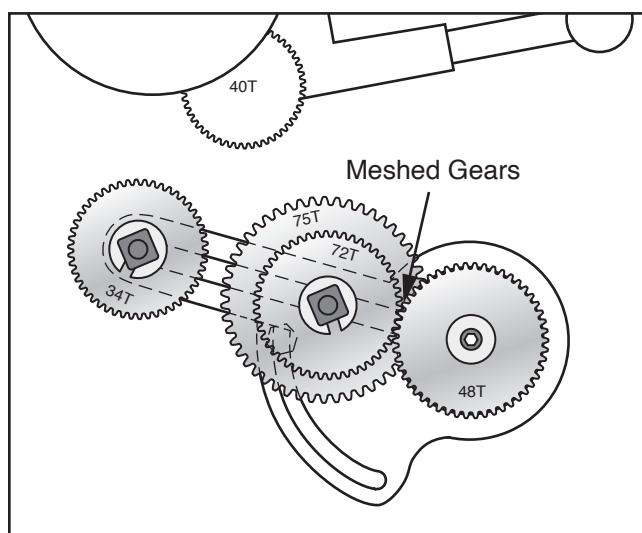

Figure 93. 72T gear meshed with 48T gear.
13. Slide middle gear assembly against lower 48T gear (see **Figure 93**) until 72T gear meshes with 48T gear with 0.002"–0.004" backlash, then tighten middle gear shaft to secure.